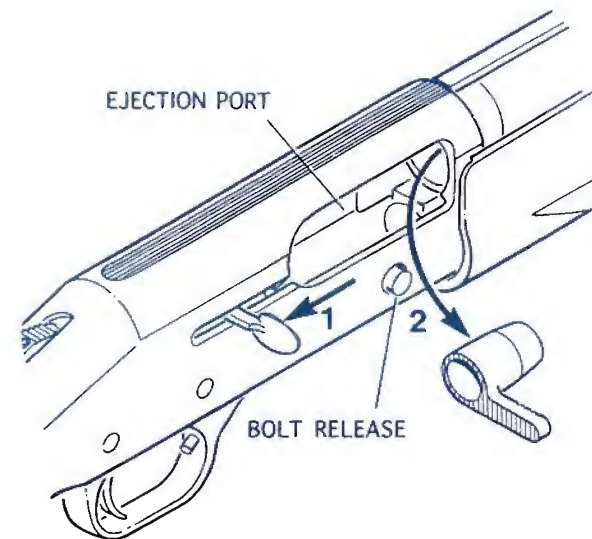

Figure 4
1. With the safety button fully rearward in the "ON" position, hold the shotgun in your left hand by the forearm, and grasp the operating handle with your right hand (Figure 4).
Keep fingers clear of operating handle and ejection port when closing action. (Figure 4)
With safety fully rearward in the "ON" (SAFE) position, and the shotgun pointed in a safe direction, press bolt release until action releases (Figure 4).
Open the action by pulling the operating handle completely rearward until it locks in the open position. (See "TO LOCK ACTION OPEN", Figure 4)
Keep fingers clear of operating handle and ejection port when closing action (Figure 4).
3. With safety button fully rearward in the "ON" (SAFE) position, and the muzzle pointed in a safe direction, press bolt release until action releases (Figure 4).
3. While holding the elevator down with your thumb, press the bolt release (Figure 4). This will release one shell from the magazine tube under spring pressure.